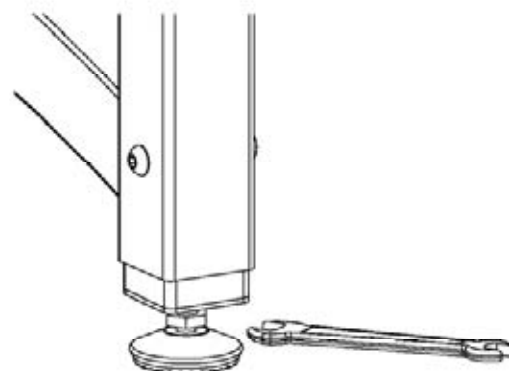

Fig. 15-1
Step 15-1: Adjust leveling feet with the 17mm Open Wrench so that the machine remains stationary without interaction from the user. To raise the leg of the machine simply turn the foot clock-wise shown in Fig. 15-1 and reverse action to lower the foot.